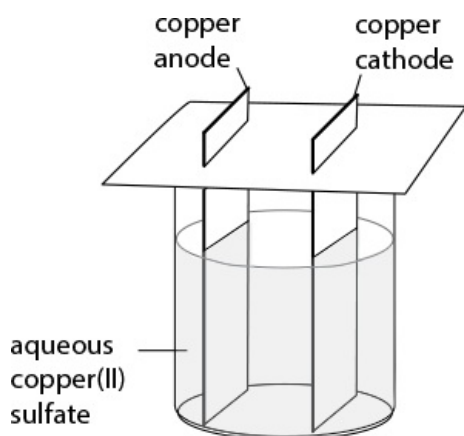

Figure 12.1b: Arranging the electrodes
- 8** Pour 100 cm³ of aqueous copper(II) sulfate into the beaker and arrange the copper electrodes as shown in Figure 12.1b. *Make sure that you know which electrode is the cathode.*